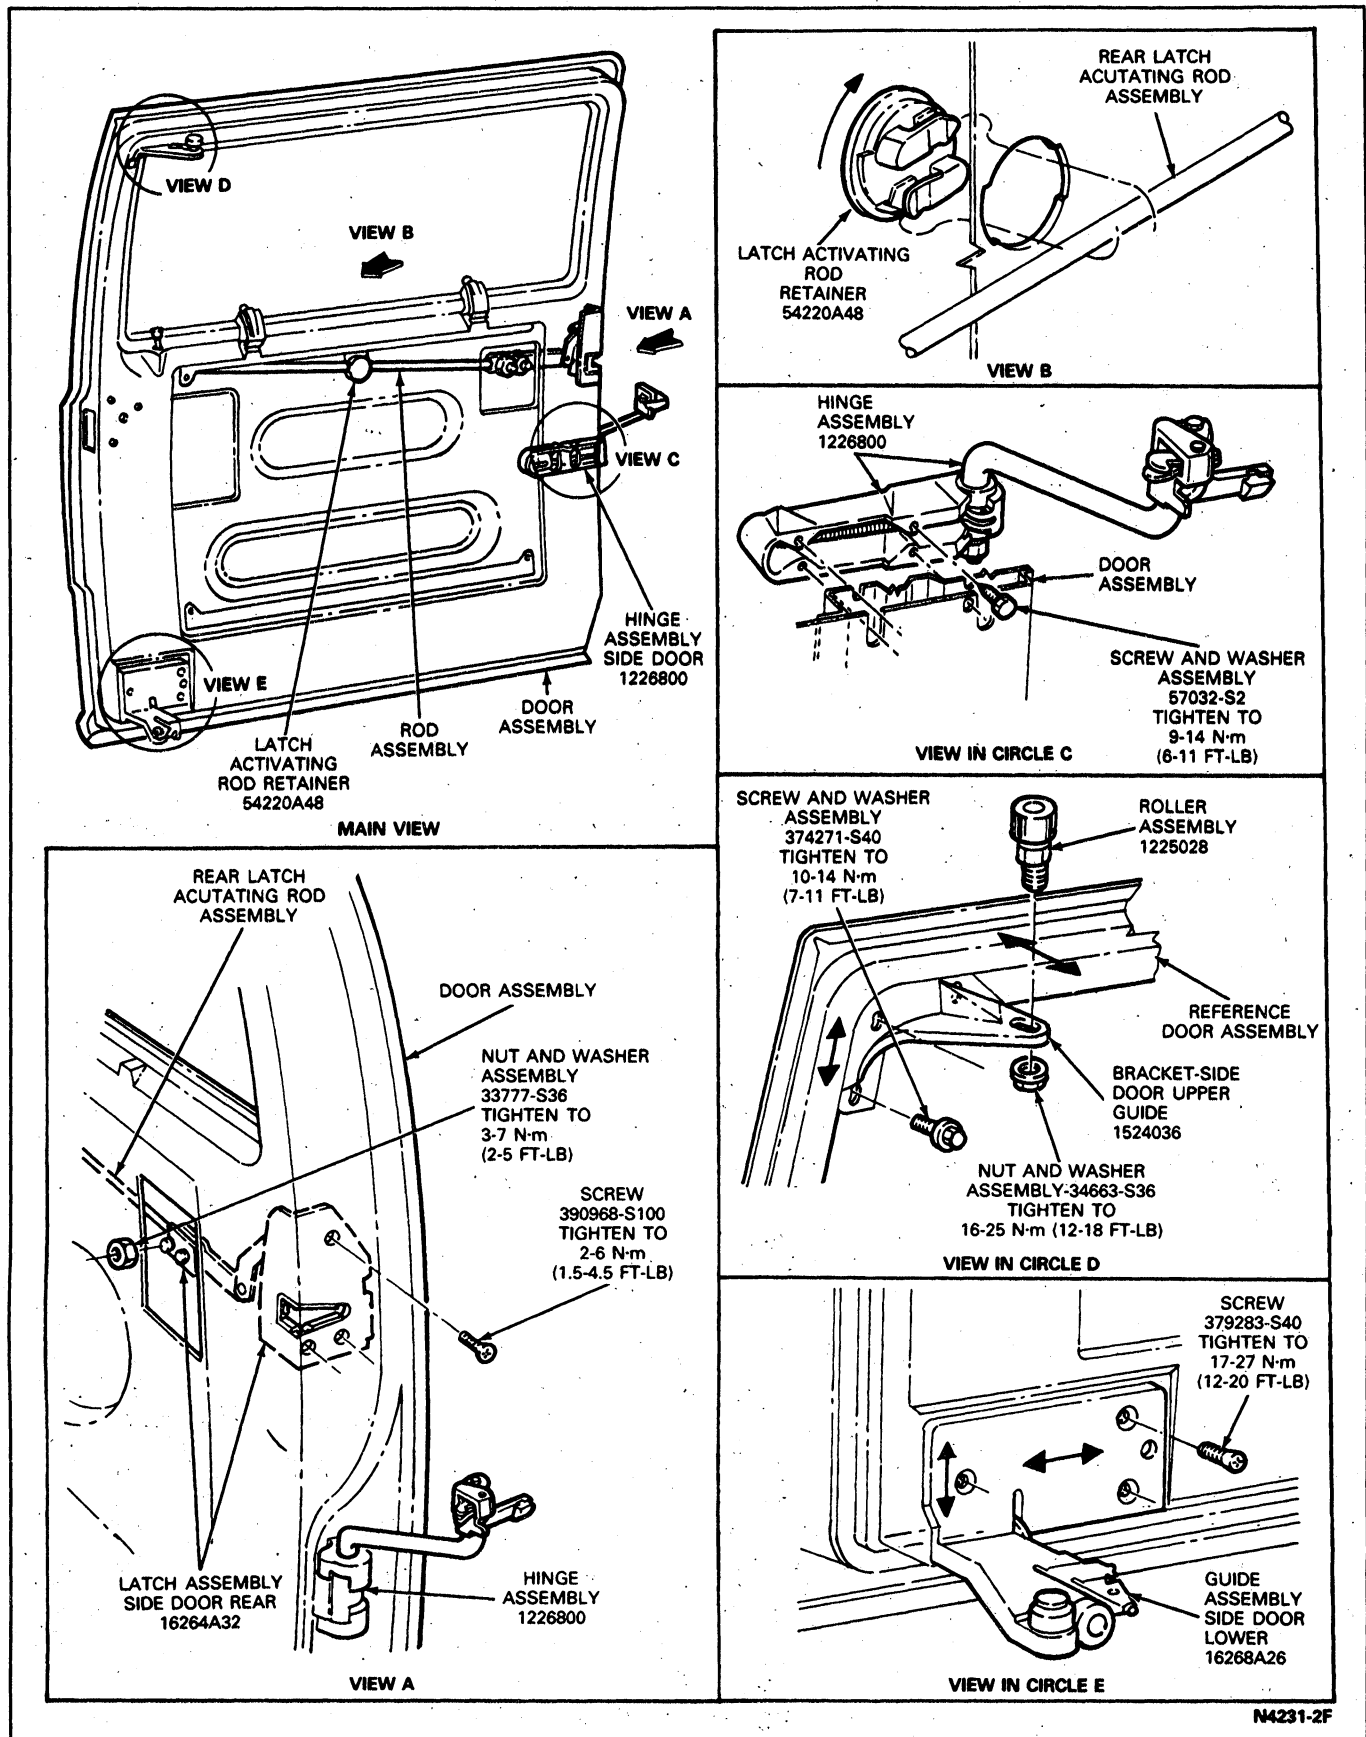
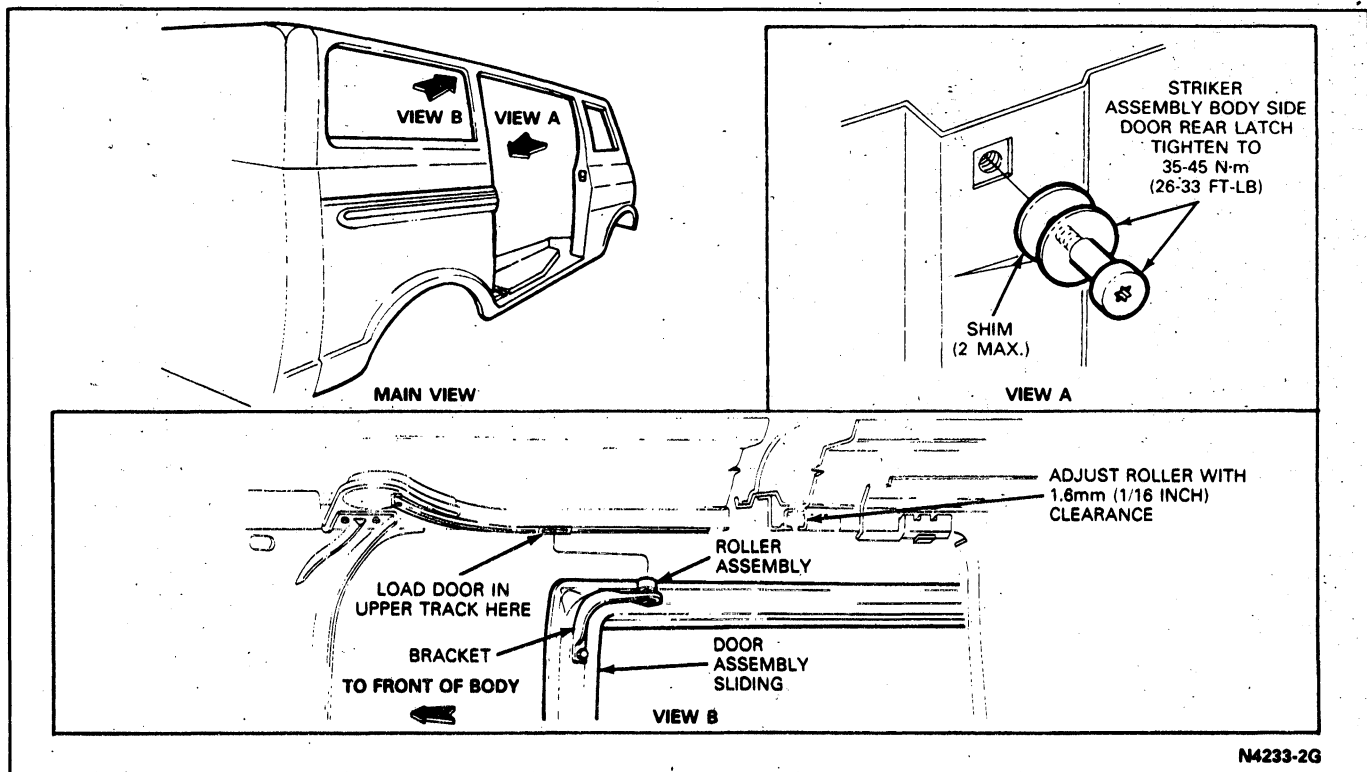
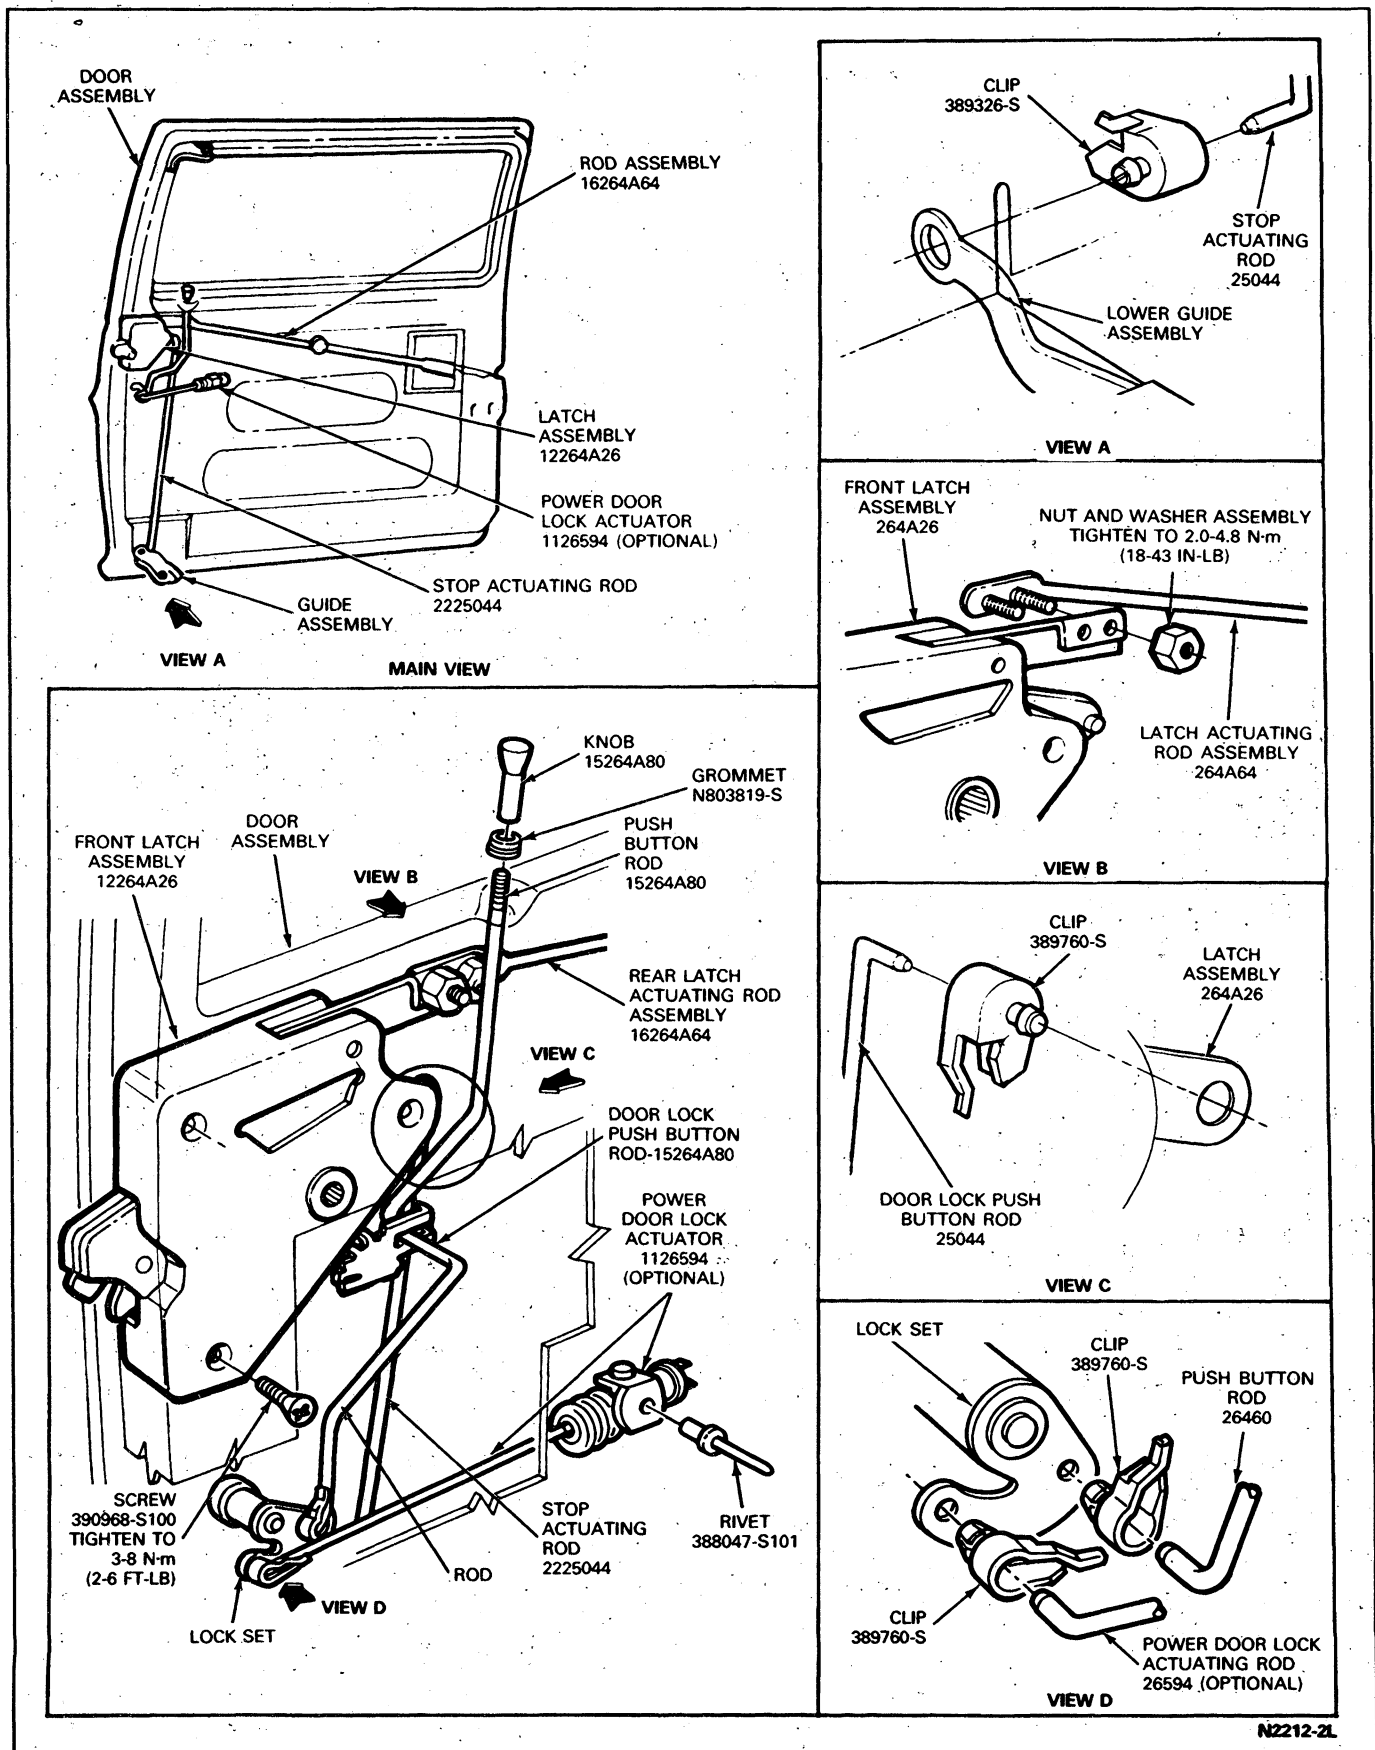

FIG. 1 Sliding Door Adjustments—In or Out or Up or Down
FIG. 2 Sliding Door—Guides and Rollers
FIG. 4 Sliding Door—Latch and Rods—E-150—E-350
If the door is slammed with sufficient force, the latch will engage the striker in the primary position and the door panel will become flush with the body panel. A door slammed with less force may allow the rear latch (Fig. 1) to engage the rear striker (Fig. 2) in the secondary position. In this event, the door may be placed in the primary or fully-latched position by rotating the inside or outside handle (inside - forward, outside - upward) until a click is heard.
To adjust the upper edge of the door, loosen the upper roller retaining nut and move the roller in or out to obtain a flush fit with the body sheet metal at the top edge of the door (Fig. 1, View D).
guide assembly **forward** to obtain a snug fit to the body, and **rearward** to move it away from the body, at the B-pillar post (Fig. 1, View E).
To move rear edge of door in or out, open door and loosen and adjust rear latch striker as required (Fig. 2, View A). Tighten striker.
To move the front edge of the door up or down, loosen the three lower guide attaching screws (Fig. 1, View E). Then, rotate the guide at the lower attaching screw to obtain the desired door **up or down** position.
Loosen the upper roller bracket assembly attaching screws. Adjust the bracket so that the bottom edge of the roller assembly is approximately 1.58mm (1/16 inch) from the bottom flange of the upper track (Fig. 2, View B).
To move the rear edge of door up or down, remove the rear hinge assembly mounting bolt covers. Then, loosen the four rear hinge assembly mounting bolts and move hinge assembly up or down until the hinge pin is observed to be horizontal and the roller properly sitting on the center track (Fig. 1, View C). Tighten the mounting screws. Open door and check striker-to-rear latch alignment. Adjust the rear latch striker up or down as required (Fig. 2, View A). Tighten striker. Close the door slowly. Ensure the rear latch striker clears the inboard tang on the latch pawl.
2. Mark the location of the upper bracket assembly to the door (Fig. 2).
5. Position the bracket and roller assembly to the door. Install the three retaining screws (Figs. 1 and 2).
4. Mark the location of the lower guide bracket to the door (Fig. 1, View E), and remove the guide attaching screws. **To gain access to the stop actuating rod retainer assembly (Fig. 4, View A), rotate the guide assembly 90 degrees.** Then, disconnect the stop actuating rod from the stop and remove the guide assembly.
5. Remove the door lock pushbutton rod from the lock cylinder and disengage it from the latch lever arm (Fig. 4, Views C and D, and Main View).
6. Remove the stop actuating rod from the front latch (Fig. 4, Main View).